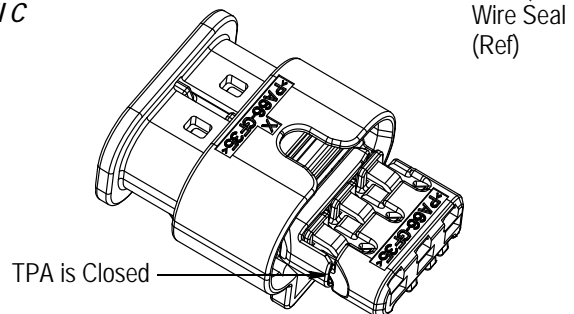

Figure 2
3. Make sure that the TPA is open as shown in Figure 2, Detail A. If it is not, open the TPA according to Paragraph 4.2.
- a. Align the contact with the selected contact cavity of the inner housing so that the contact locking feature faces in the same direction as the locking latch of the inner housing. See Figure 2, Detail B.
- c. Check that the wire seal is below the top of the contact cavity. See Figure 2, Detail B. If it is not, press the protruding part of the wire seal into the contact cavity, ensuring that it stays in place. If necessary, use a blunt probe with a rounded edge. Take care not to tear the seal. If the seal tears, the contact and seal must be replaced.
5. Install a sealing plug into any empty contact cavity. See Figure 2, Detail B.
6. After all contacts have been inserted, slide the TPA until it is closed. The TPA should be easy to close. See Figure 2, Detail C.